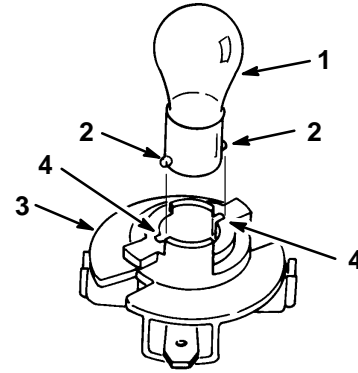

**Figure 33**
3. Rotate the bulb holder 1/4 turn counterclockwise and remove it from the reflector (Fig. 33).
2. The bulb holder has two tabs (Fig. 33). Align the tabs with the slots in the reflector, insert the bulb holder into the reflector and rotate it 1/4 turn clockwise until it stops.